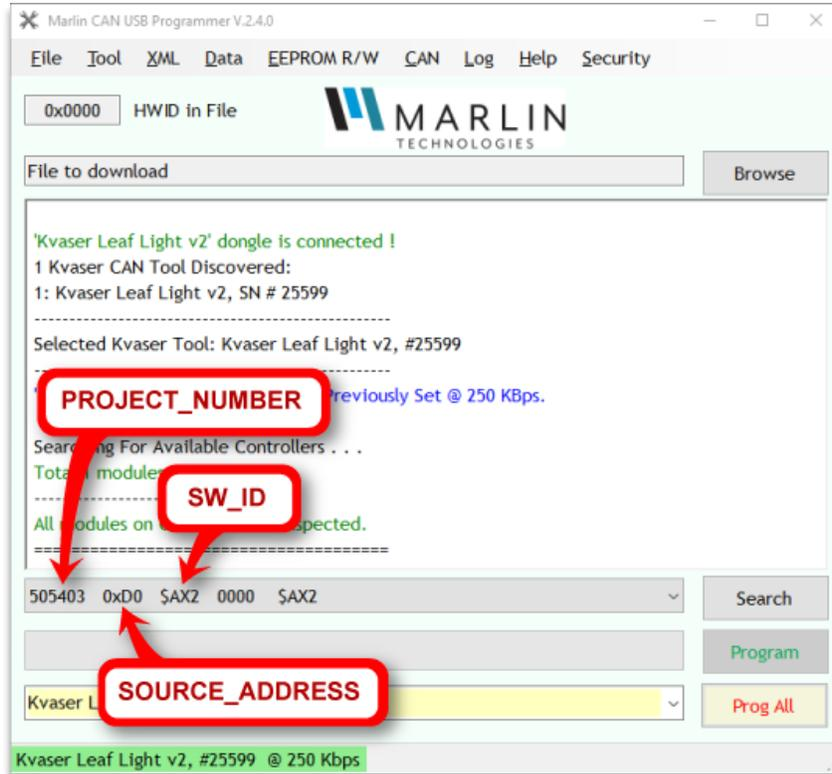

Figure 36
- **PROJECT_NUMBER** is the part number of the display module. It is used in the J1939 address claim message (see above) and is displayed by the Marlin Programming Tool (see Figure 36).
- **SW_ID** is an ASCII string that indicates the revision of the application software (SW_NUMBER). It is displayed by the Marlin Programming Tool (see Figure 36).
- **SOURCE_ADDRESS** is the source address of the display module, as transmitted in CAN messages. It is also displayed by the Marlin Programming Tool (see Figure 36).